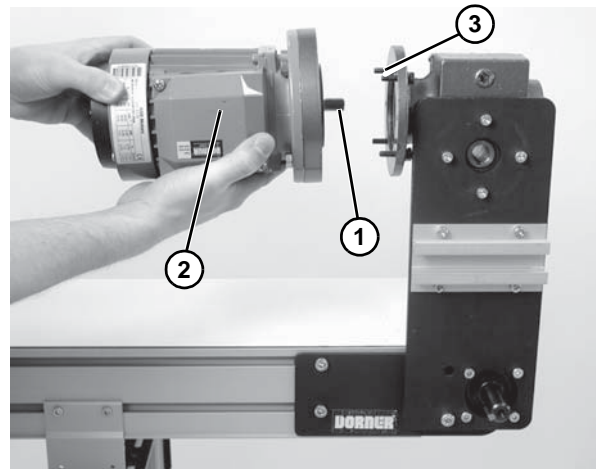

Figure 28
5. Apply anti-seize to motor shaft before assembling to gearbox. With key (**Figure 28, item 1**) in keyway, slide motor (**Figure 28, item 2**) and gear reducer together. Install screws (**Figure 28, item 3**) and tighten.